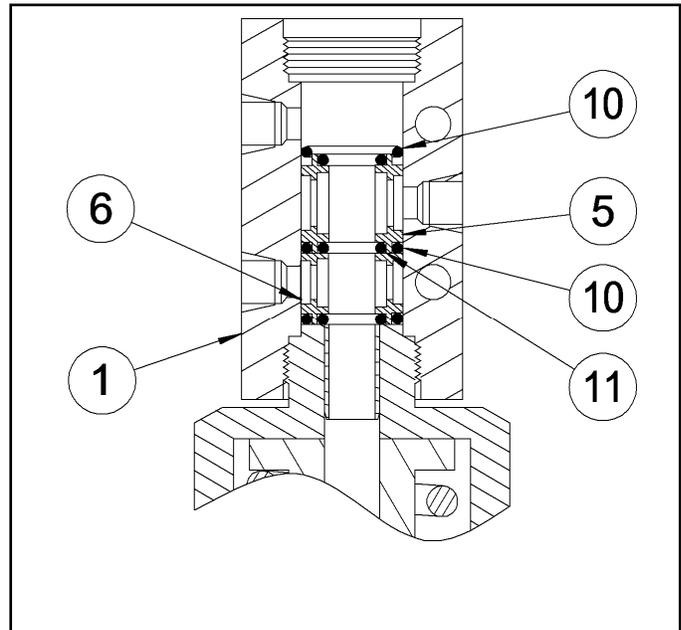

Figure 5: Center Sleeve Seated
9. Carefully slide the center sleeve (item 5) into the bore in of the body. When it reaches the outer o-ring (item 10), lying on the end sleeve (item 6), press the center sleeve to seat the o-ring. (See Figure 5)
10. Place a lubricated outer o-ring (item 10) in the bore of the body (item 1) on top of the center sleeve (item 5). Do not try to seat o-ring at this time. (See Figure 5)